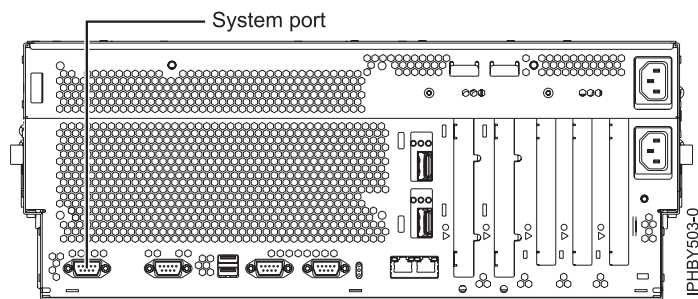

Figure 9. Connection for 8233-E8B and 8236-E8C
- For more information, see Figure 9.